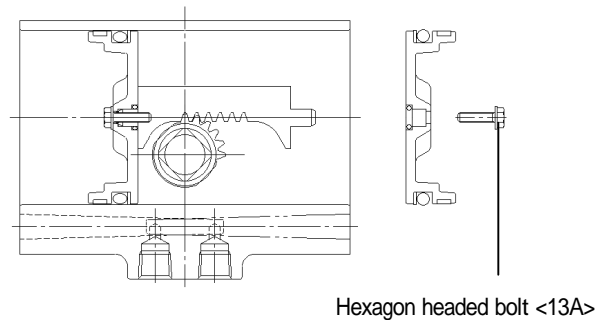

Fig.15
(7) Assemble another piston with another projection of the rack. Securely tighten it with a hexagon headed bolt and a flat washer. Also at this time tighten the first piston and the first rack projection securely (Fig.15).